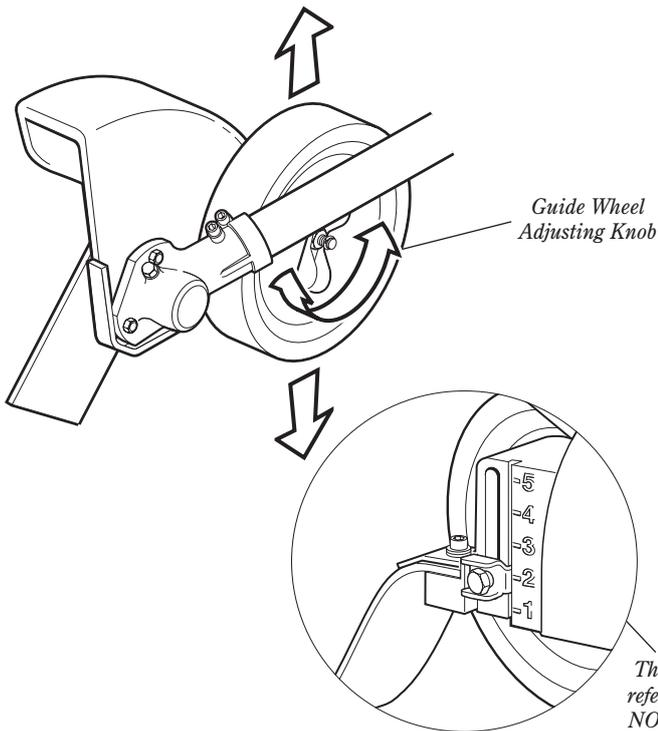

Figure 37
2. Raise or lower the guide wheel to the desired setting (see figure 37).